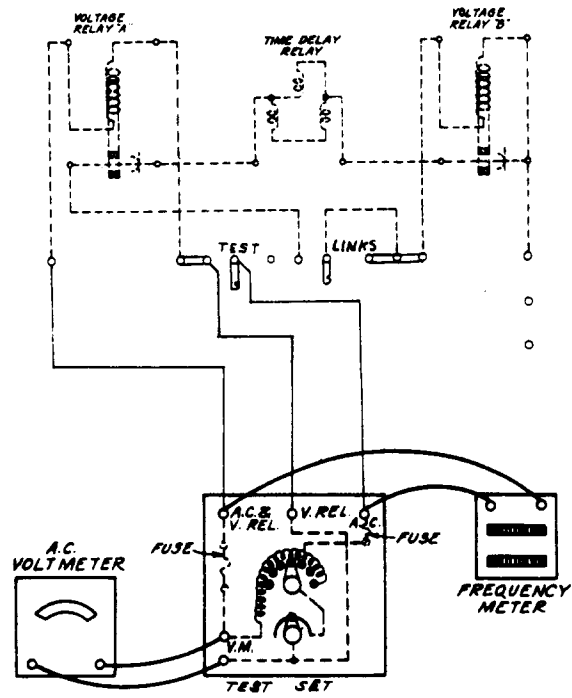

Fig. 6 - Test Connections for Relay "A" Without Transformer
(1) Connections to the master switch should be changed only after the line service switch directly ahead of the master switch has been opened to remove the line voltage from the switch. Connections should be made as shown in schematic form in Fig. 6, 7, 8, and 9. After connections are completed, energy for testing the voltage relays may be obtained by closing the line service switch.
Note: In Fig. 6, 7, 8, and 9, frequency meter may be omitted since a check of frequency is seldom required.
(2) Measure the temperature of the coils and contacts by holding the bulb of a centigrade thermometer against the surface of the part being measured and observing the highest temperature indicated. That part of the bulb not in contact with the part whose temperature is being measured should be covered with a felt pad or equivalent material. The minimum voltage on the voltage relay coils, as covered in the requirements, may be obtained by connecting the test set as shown in Figs. 6, 7, 8 and 9.